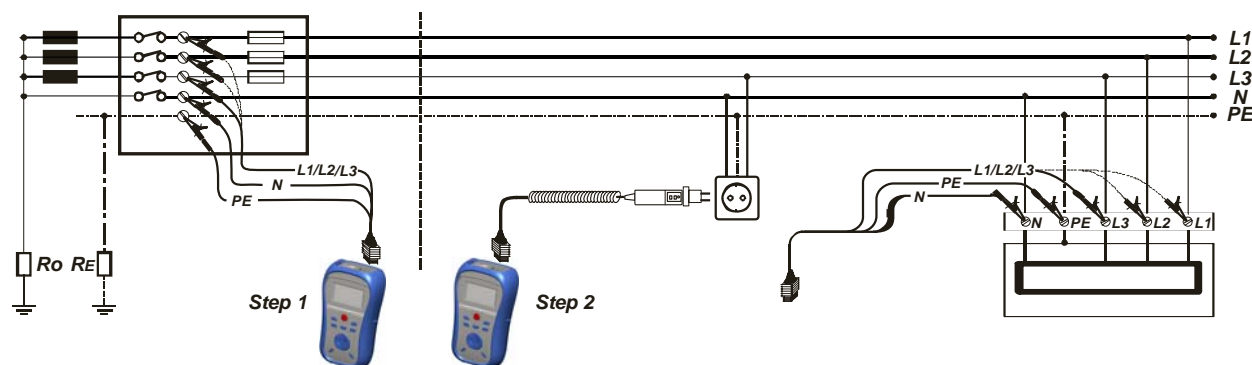

Figure 5.30: Phase-neutral or phase-phase voltage drop measurement – connection of plug commander and 3-wire test lead
- **Connect** the test leads to the origin of electrical installation (see figure 5.30).
- ❑ **Connect** the test leads to the tested points (see *figure 5.30*).